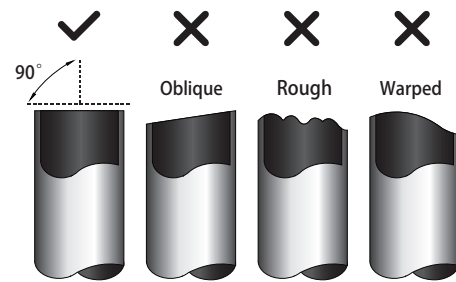

Fig. 7.4
- Make sure that the pipe is cut at a perfect 90° angle. Refer to Fig. 7.4 for examples of bad cuts